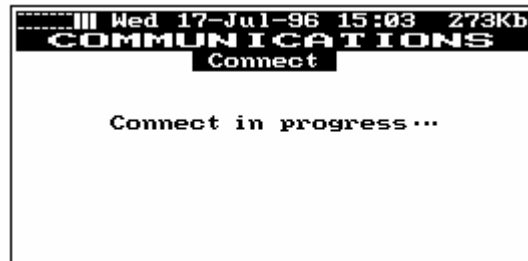

Figure 34
- SM20** Select **“3--Dial Remote Computer”** and press **[ENTER]**. The analyzer will initiate the connection by dialing the number specified in the **“Define Remote Phone Number”** procedure as described in **SM19** above. When this action occurs, the analyzer will also display the screen shown in figure 34 below.